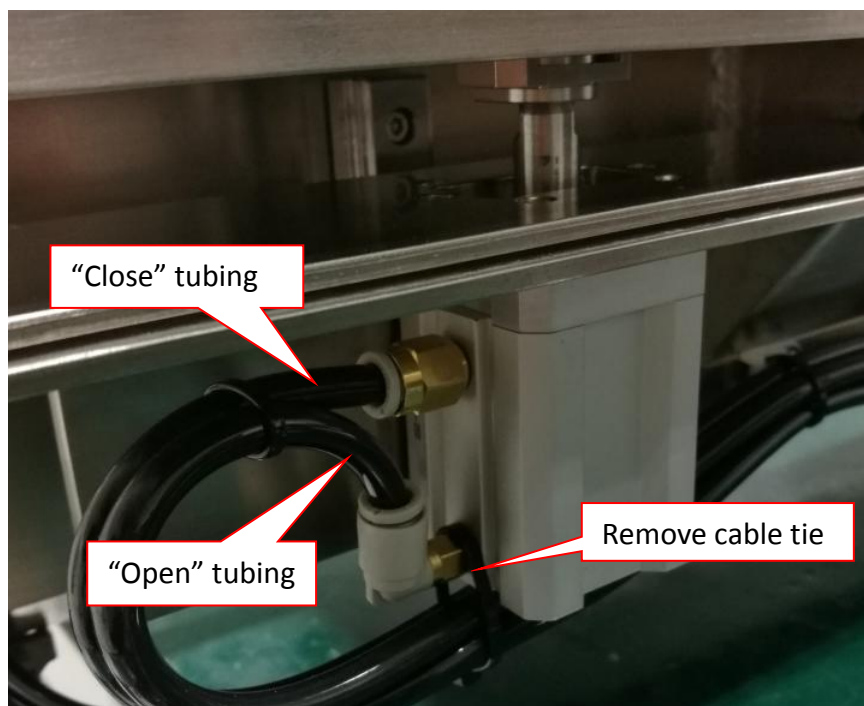

Figure 6 Tubing Removal
8. Remove necessary cable tie & 2 x Tubing from Clamper Cylinder as Figure 6.